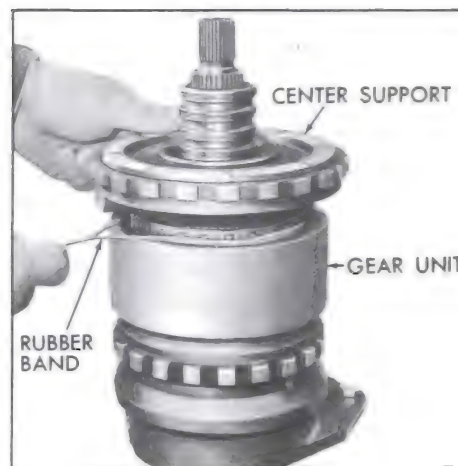

Figure 5-686
b. Start sprag assembly into outer race, remove the rubber band and finish installation by pressing on case support. See Figure 5-686.